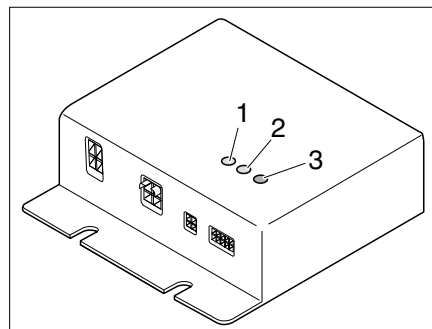

Fig. 313 Control unit
The control unit (Fig. 313) is installed in the wardrobe. The control lamps on the control unit have the following meanings:
- The indicator LED (Fig. 313,1) HC1 lights up in green: Heating circuit 1 is operating
- The indicator LED (Fig. 313,2) HC2 lights up in green: Heating circuit 2 is operating
- Fault LED (Fig. 313,3)